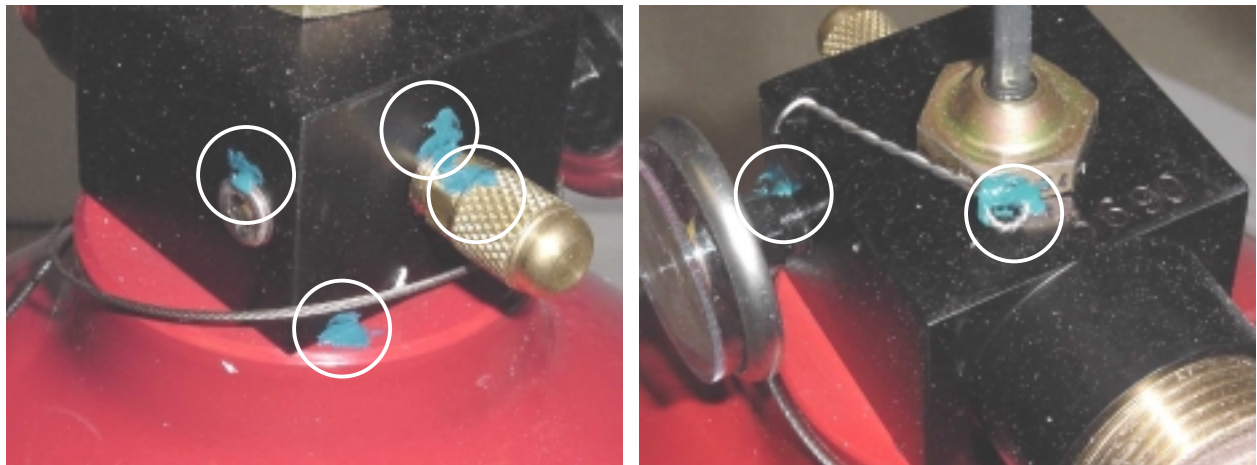

Figure 5. Anti-tamper Paint Spots
6. Apply anti-tamper paint at the fill valve cap, fill valve to body, DC fill plug, gauge to body, squib to body, plug to body, and valve to bottle joints. Figure 5 illustrates typical installation of this paint.